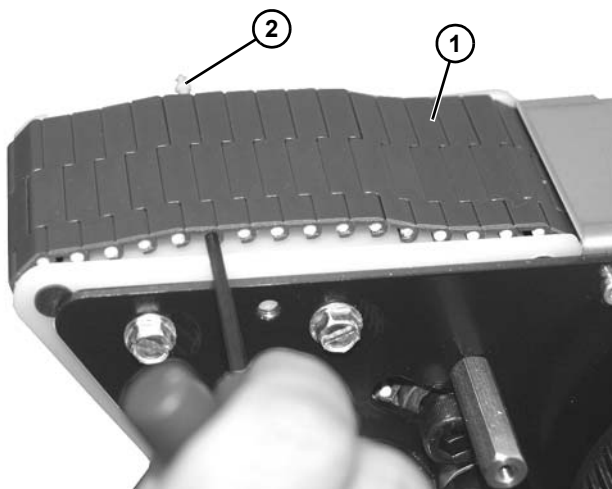

Figure 160
7. Lift slightly on belt (**Figure 160, item 1**) and push pin (**Figure 160, item 2**) out of belt.